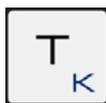

Fig. 3-5-2
2) Graphic page Press soft key **【GRAPH】** to enter this page (Fig. 3-5-2):